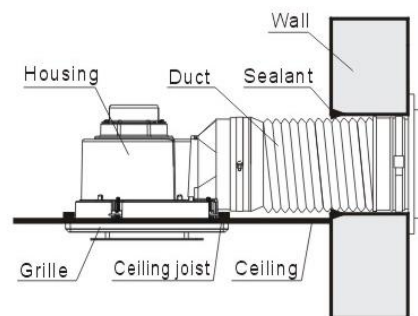

Fig. 2 – Installing duct if required
7. Note: if ducting is required to completely exhaust air from the room, then install a 150mm duct pipe to the exhaust fan and lay the ducting across the ceiling and onto a suitable 150mm exhaust vent. (Fig 2)